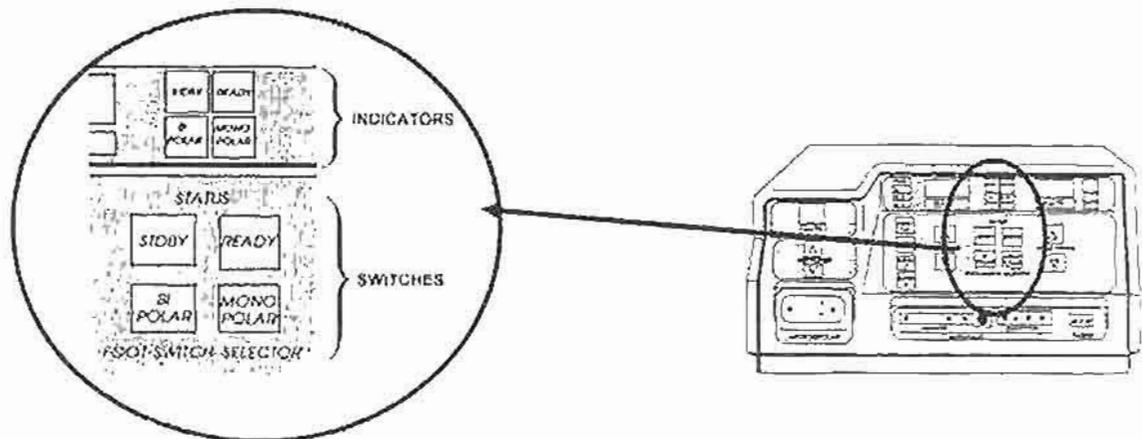

Figure 2-3. Front panel, STATUS section.
(3) "STATUS" and "FOOT-SWITCH SELECTOR" section (fig 2-3).